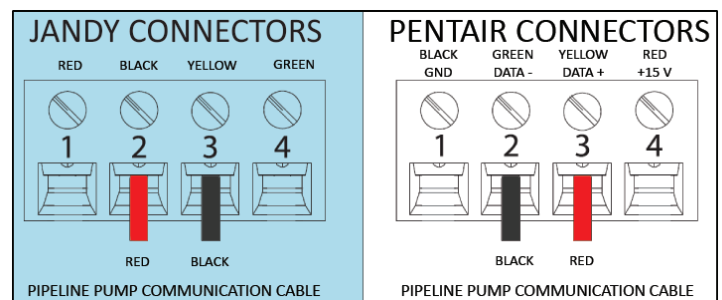

FIGURE 6
- Connect the Black (Data -) and Red (Data +) wires from this cable to an unoccupied Communication port in the load center per the wiring diagram shown in Figure 6.
\*For connecting to a Hayward® Omni Automation Controller, you will need to use the OmniHub® Converter Board. Follow the Hayward instructions for connecting to a Pentair® Intelliflo® VS pump. Attach your pump communication cable to the OmniHub® Converter Board and wire communication port per the Jandy® diagram in Figure 6.\*